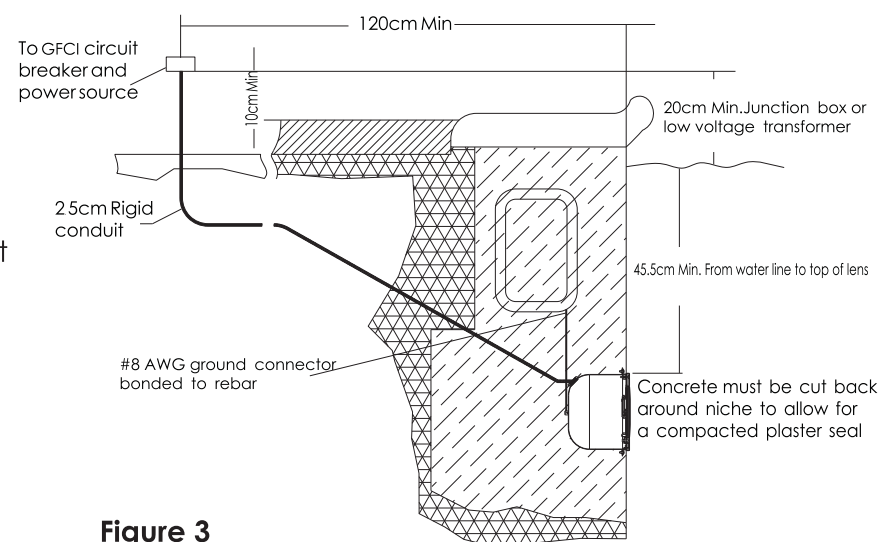

Figure 3
- 3) Make sure the voltage is 12V and the terminal box is at least 120cm from the poolside (Figure 3).
- 4) Upon installation, top of the light must be at least 45cm from water surface (Figure 3).